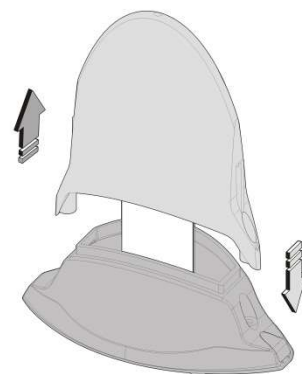

Figure 6.3 – Removal and Attachment of the FL Top Cover
- d. Close the top cover of your device. (See also: *Installation Figure 6.3*)